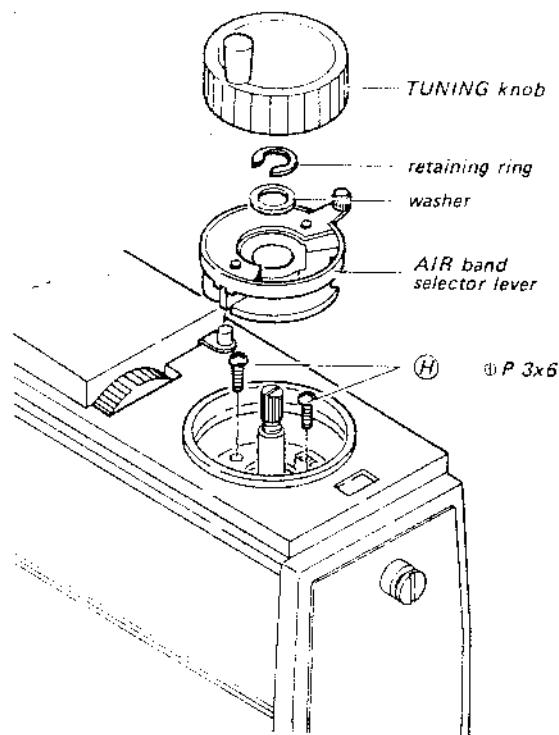

Fig. 2-5
5. Take out the AIR band selector lever shown in Fig. 2-5.
6. Remove the two screws ($\Phi P 3 \times 6$) marked ⑩ in Fig. 2-5.